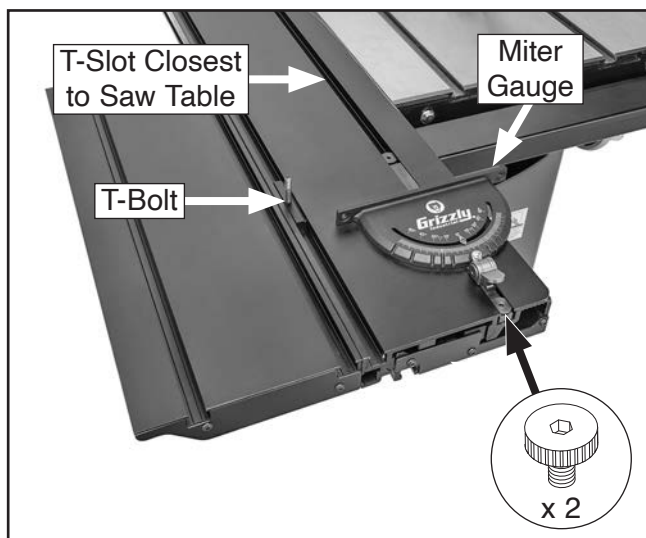

Figure 15. Miter gauge and pivot knob T-bolt installed on sliding table.
32. Insert miter gauge bar into sliding table T-slot closest to saw table (see **Figure 15**).
33. With end of miter gauge bar flush with face of sliding table (see **Figure 15**), turn (2) knurled screws counterclockwise to secure miter gauge position.
34. Remove T-bolt and nylon pad from fence pivot knob, then insert T-bolt into left-hand T-slot in sliding table, and move T-bolt forward slightly past miter gauge (see **Figure 15**).